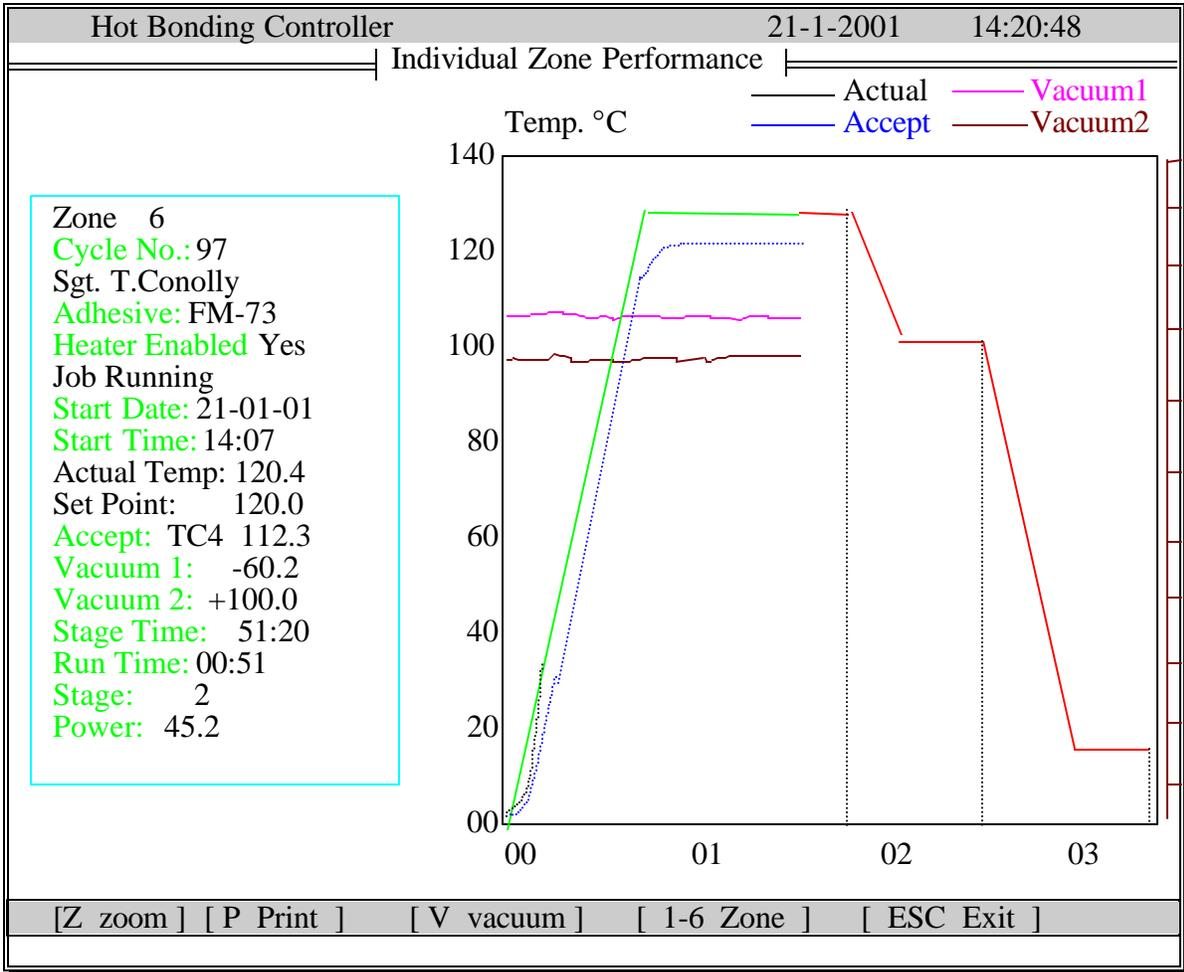

Fig. 5 Individual Zone Performance Screen, with Vacuum/Pressure scale
- 3) Pressing the 'V' key will toggle on and off a vertical scale and two traces for the vacuum/pressure transducers on the graph. The scale is from zero to one atmosphere of either vacuum or pressure. (See Fig. 5)
Pressing the 'V' key will toggle on and off a vertical scale and two traces for the vacuum/pressure transducers on the graph. The scale is from zero to one atmosphere of either vacuum or pressure. (See Fig. 5)